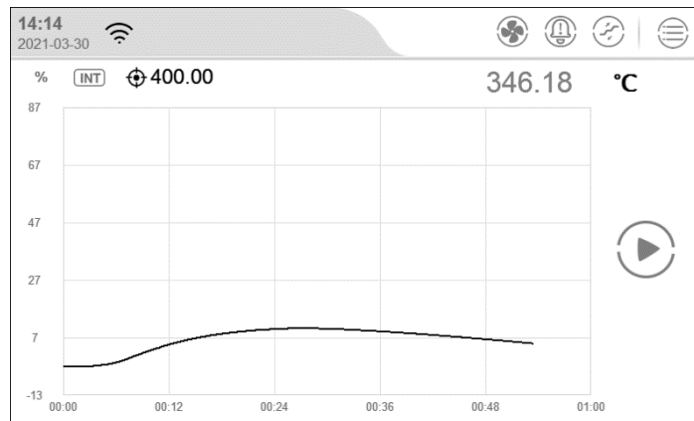

Figure 2-4 Measurement curve in standby state
- 3) Temperature control button: this toggle is used to start/stop the temperature control operation; when the temperature control is started, the real-time temperature control rate will be displayed below the button. As shown in Figure 2-4.